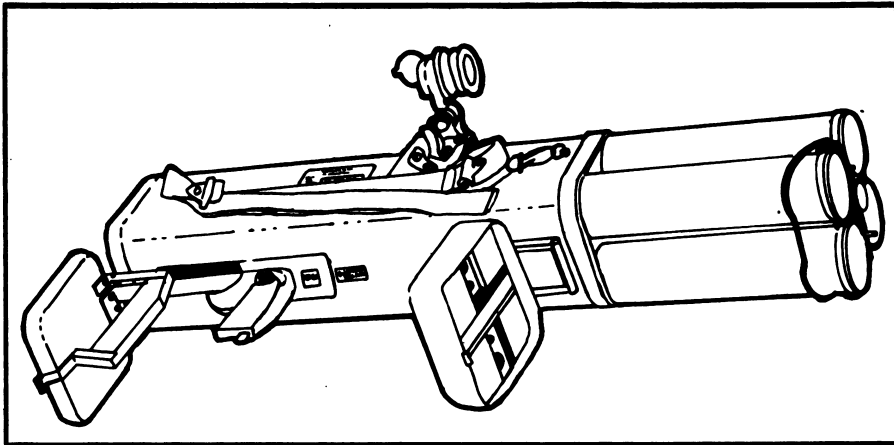

Figure 2
b. Release the bail handle, insuring that it folds against the rear edge of the clip in the downward position (fig. 2).
(1) Holding the handle, rotate the front cover down below the launcher's tube until it locks into position. This action releases the trigger-handle assembly which is located beneath the launcher (fig. 2).